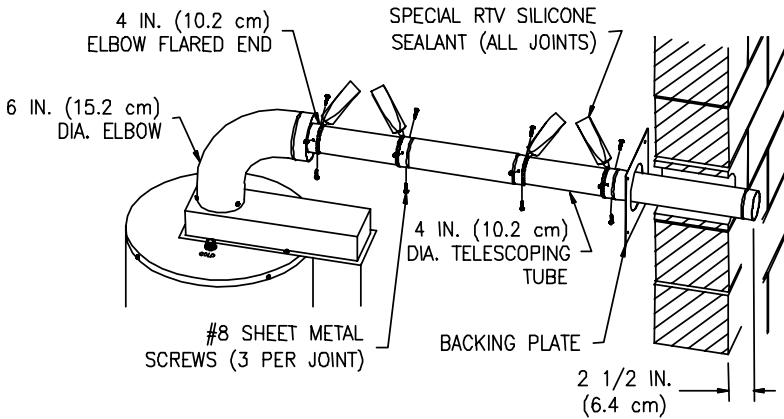
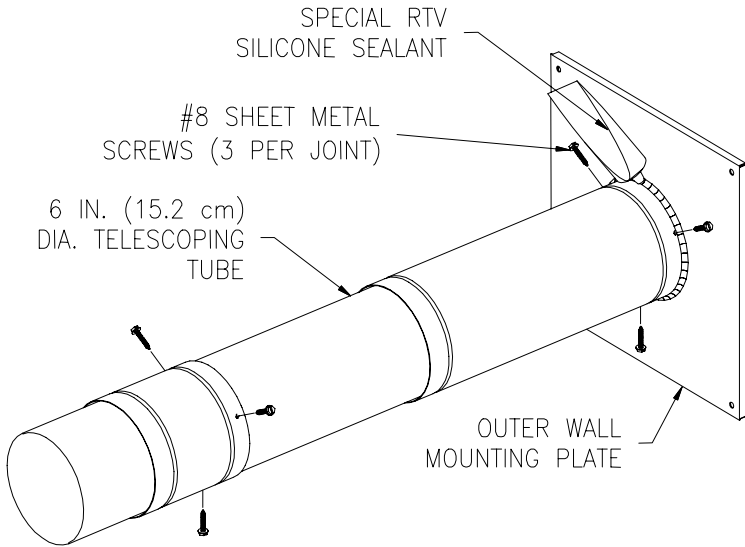

Figure 14c
Figure 15b
Extend the four (4) inch (10.2 cm) diameter telescopic tubes to their maximum lengths. Join the tubes by inserting the small end of a tube into the large end of another, one (1) inch (2.5 cm) (*or until seated*). With a 1/8 inch (3.2 mm) diameter drill bit (not supplied), drill three (3) holes, 120° apart, through each joint where the four (4) inch (10.2 cm) diameter telescopic tubes are joined. At this time, DO NOT drill holes where the small and large sections of the four (4) inch (10.2 cm) telescopic tubes overlap. Fasten each joint with three (3) #8 sheet metal screws (supplied). (See Figure 15b). Slide the backing plate over the joined four (4) inch (10.2 cm) diameter telescopic tubes. Place the large end of the joined four (4) inch (10.2 cm) diameter telescopic tubes through the hole in the outside wall. Insert the smaller end of the joined four (4) inch diameter (10.2 cm) telescopic tubes into the flared end of the four (4) inch (10.2 cm) diameter elbow, one (1) inch (2.5 cm) (*or until seated*). Drill three (3) 1/8 inch (3.2 mm) diameter holes, 120° apart, through the four (4) inch (10.2 cm) diameter elbow into the joined four (4) inch (10.2 cm) diameter telescopic tube(s). Fasten with three (3) #8 sheet metal screws (supplied). Adjust the overall length of the joined four (4) inch (10.2 cm) diameter telescopic tubes so that 2-1/2 inches (6.4 cm) *extends* beyond the outside wall. Drill three (3) 1/8 inch (3.2 mm) diameter holes, 120° apart, through the joined four (4) inch (10.2 cm) diameter telescopic tubes where the small and large sections overlap. Fasten with three (3) #8 sheet metal screws (supplied). Using the supplied RTV silicone sealant, apply a sufficient amount to seal all joints. (See Figure 14c).